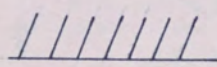

Fig. 3
- 4. The wafers shall be orientated so that they all lean to the right on looking down the boat holder as shown in Figure 3.